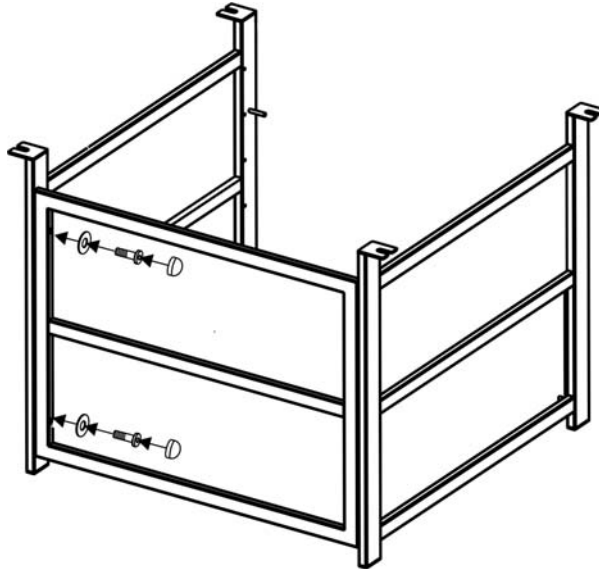

Figure 2
2. Attach the back panel to side panels by using four 1/4"x45 mm bolts and Ø6.5x1.0 mm washers as shown in Figure 2. Guide bolts through holes in back panel, into pre-drilled holes in the side panels. **Hand tighten only.**